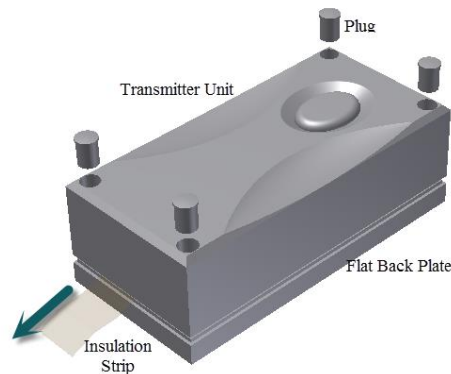

Figure 20
1. Take the transmitter unit with the pre-assembled flat back plate and pull the insulation strip out of the unit to activate the transmitter battery (figure 20).